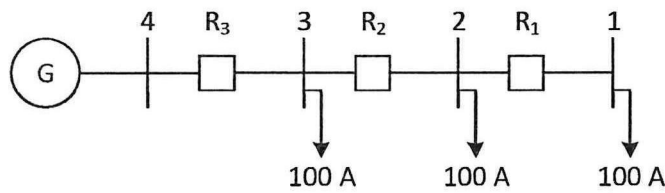

Figure Q3(b)
(b) **Figure Q3(b)** shows a radial distribution system with primary and backup overcurrent protection. The system is installed with **three (3)** overcurrent relays with IEC Standard Inverse characteristic. The fastest time multiplier setting (TMS) for each relay is 0.025 and the coordination time interval (CTI) between the primary and the backup protection should be set at 0.3s. **Table Q3(b)** shows the maximum load current, the minimum fault current, and the maximum fault current of each feeder in the system, respectively: